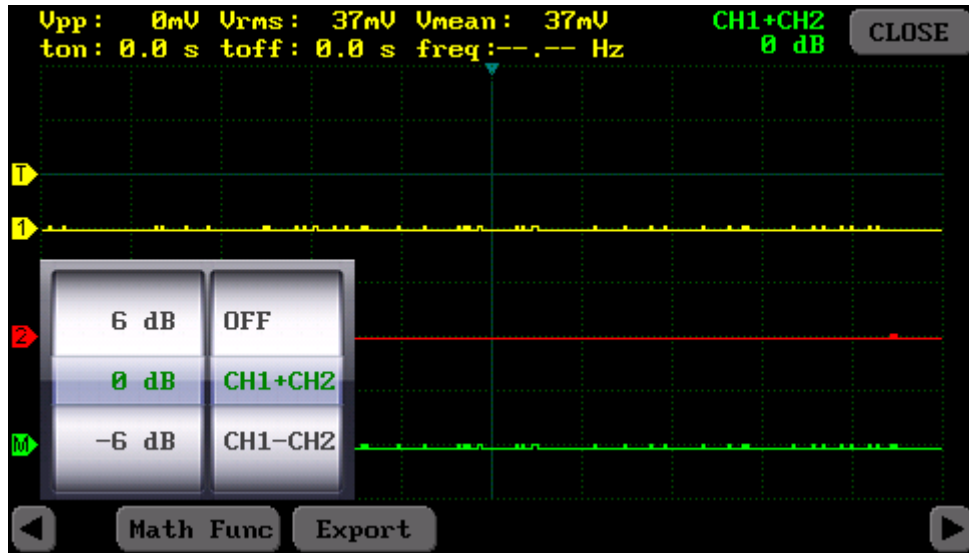

Figure 12. Math function menu
It is possible to do math calculations among the observed signals via math function. By selecting the button numbered (25), math menu can be accessible (Figure 3c). In the Figure 12, math menu can be seen which has 2 parts. On the left, gain value can be arranged, while the right side is used to select math function. Function and gain information are shown in the area numbered (4).
To observe the operation result better, it is possible to multiply with a coefficient. Hence, the gain value on the left side of the math menu should be changed (Figure 12). At the Table-4, approximate gain value regarding to the decibel value is shown.